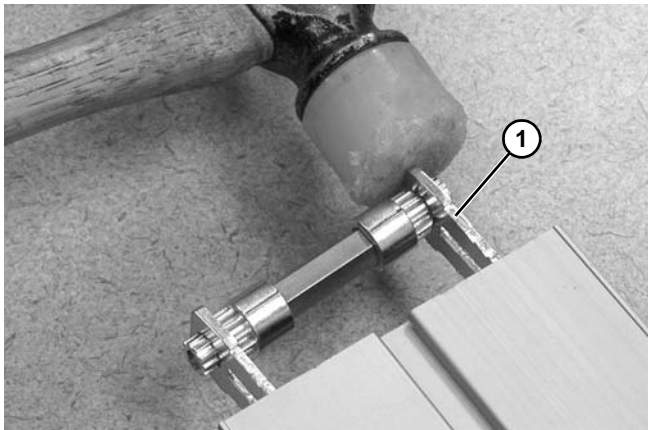
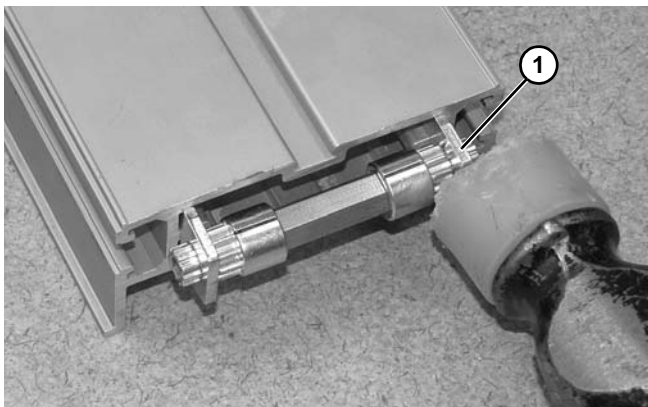

Figure 103
Figure 104
8. Tap alternating retaining plates (**Figure 103, item 1**) and (**Figure 104, item 1**) with a hammer until fully assembled onto conveyor frame.